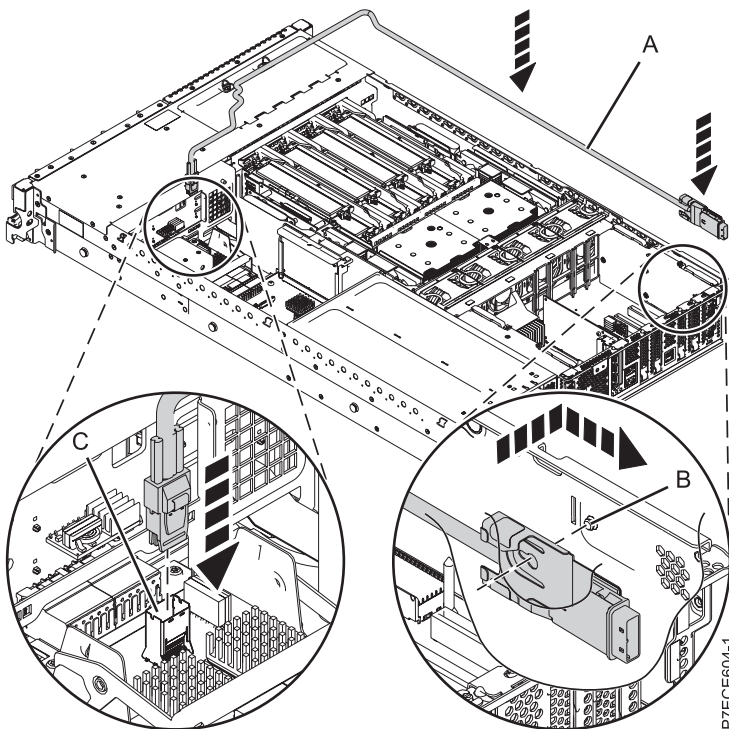

Figure 58. Replacing the SAS cable
3. Connect the mini-SAS connector of the SAS cable to the internal SAS connection port (C) on the storage interposer until it snaps in place. See Figure 58.
4. Route the cable (A) in front of the memory riser cage and along the channel in the side wall until the SAS port connector is near the opening on the rear of the chassis.
5. Align and guide the slot in the bracket of the SAS port connector (B) over the guide pin in the chassis. Then slide the SAS port connector into the opening on the rear of the chassis until the tab on the bracket snaps in place.